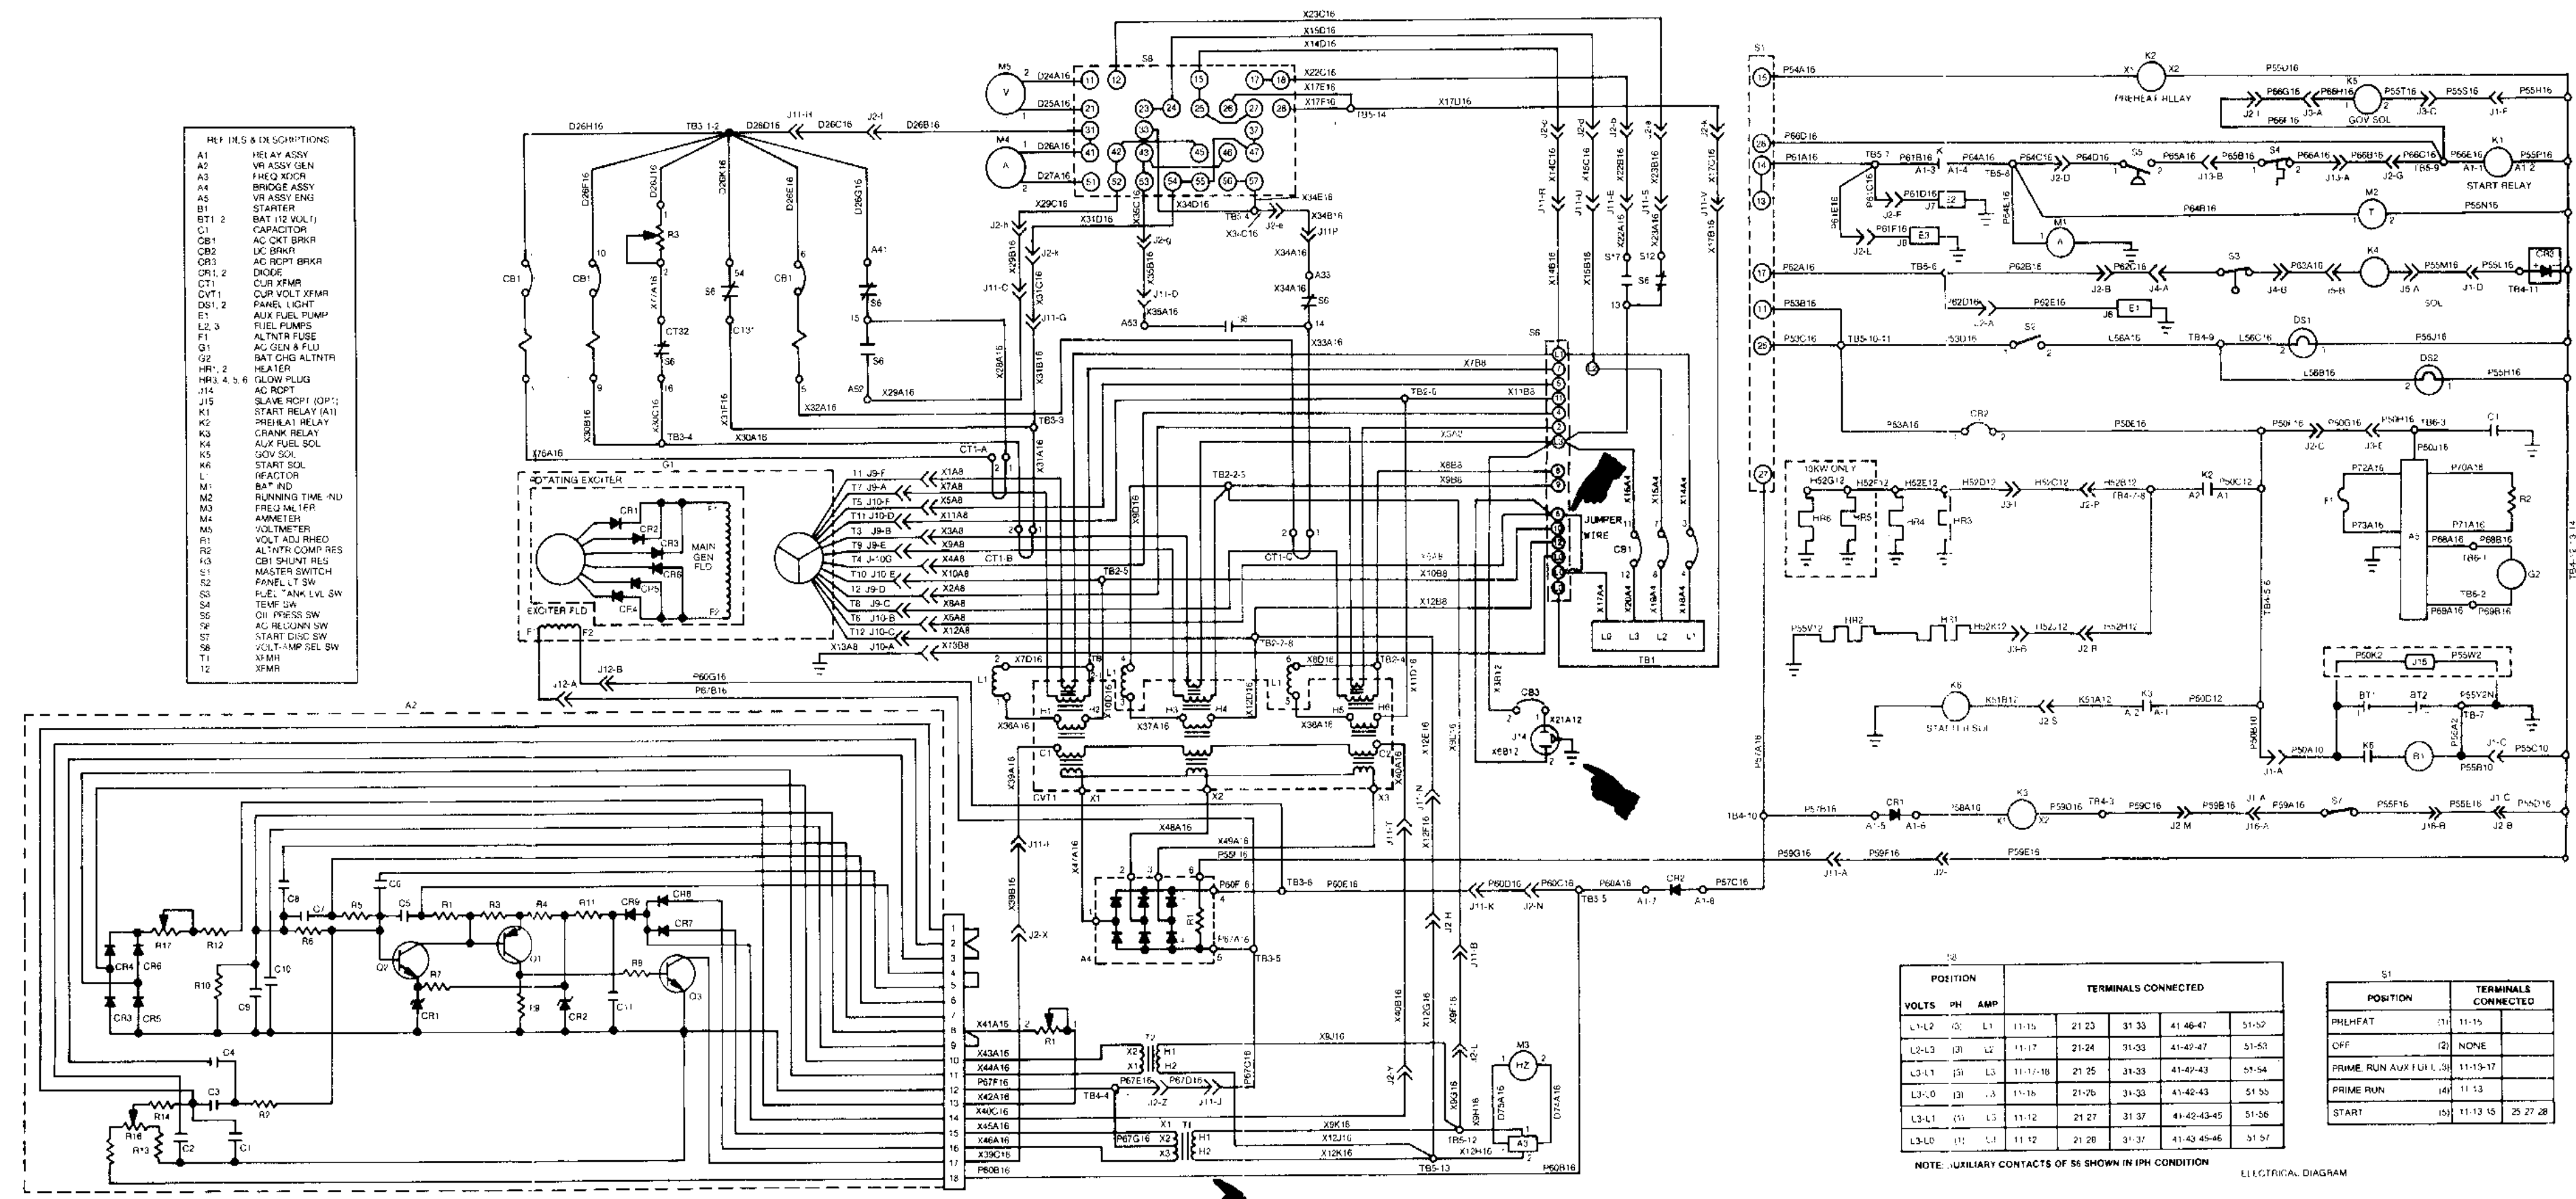

Figure 1-1. Generator Set Electrical Schematic (MEP-003A).
(1) High temperature switch. Refer to Operator and Organizational Maintenance Manual.
(2) Low oil pressure switch. Refer to Operator and Organizational Maintenance Manual.
(3) Fuel level switch (day tank). Refer to Operator and Organizational Maintenance Manual.
n. Schematic Wiring Diagrams. Figure 1-1 shows the schematic wiring diagram of the power plant.
(1) Table 1-1 lists specific torque values.
(2) All torque values are calculated for oil lubricated threads. Increase this value by 10 percent when threads are not lubricated.